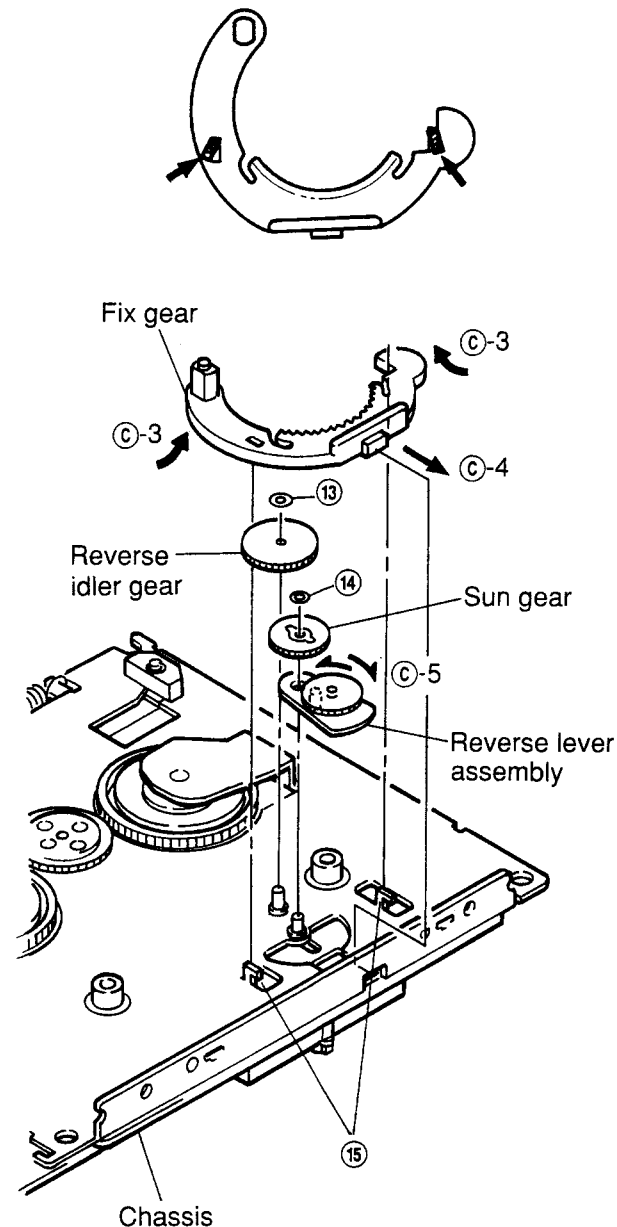

Figure 13
- (1) Remove M1.2 lock washer (13), pull it up from the stud of the chassis and remove the gear as shown in Figure 13.
- (2) Remount following the removal steps in the reverse order.
- (1) Remove M1.2 lock washer (14) , pull it up from the stud of the chassis and remove the gear as shown in Figure 13.
- (2) Mount it, following the removal steps in the reverse order.
- (1) Adjust the two mounting claws for the fix gear on the chassis (15) and remove the section (C)-3 of the gear by pulling it up in the direction of the arrow shown in Figure 13.
- (2) Insert the section (C)-4 of the new gear into the chassis, and mount it following the removal steps in the reverse order as shown in Figure 13.
- (1) Remove both the fixing gear and the sun gear and remove the reverse lever assembly as shown in Figure 13.